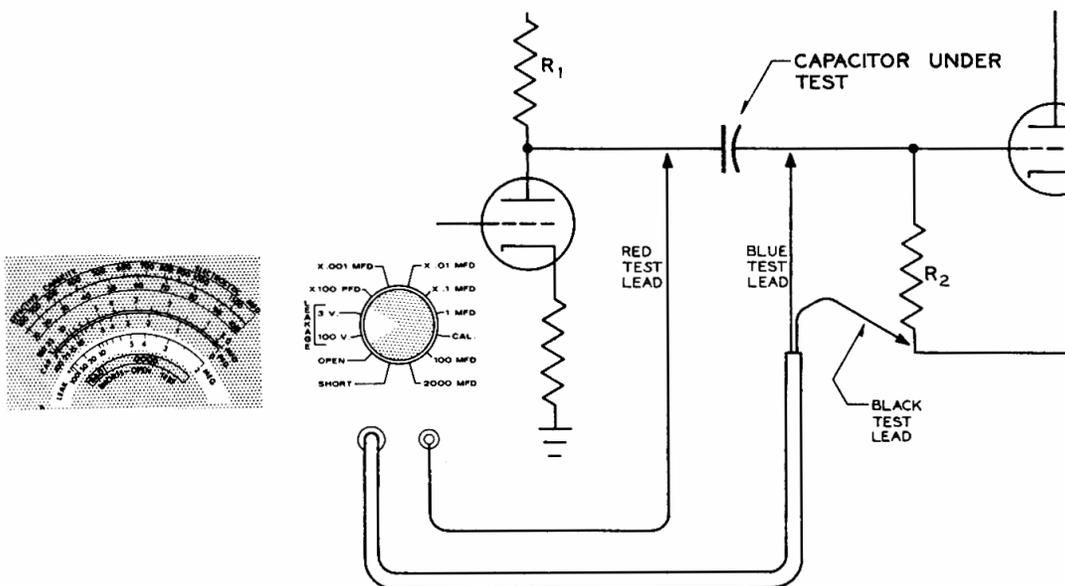

FIGURE 2. LEAKAGE TEST FOR COUPLING CAPACITORS.
**COUPLING CAPACITORS.** See Figure 2.
NOTE: See Figure 2. When operating at 100 volts, if R2 is below 130K and/or R1 is less than 10K, meter accuracy will be slightly off. When operating at 3 volts, R2 should be several megohms to attain accurate results. The important concern here is whether enough leakage exists in a capacitor to cause trouble in a circuit and the Model 801 will always indicate this.